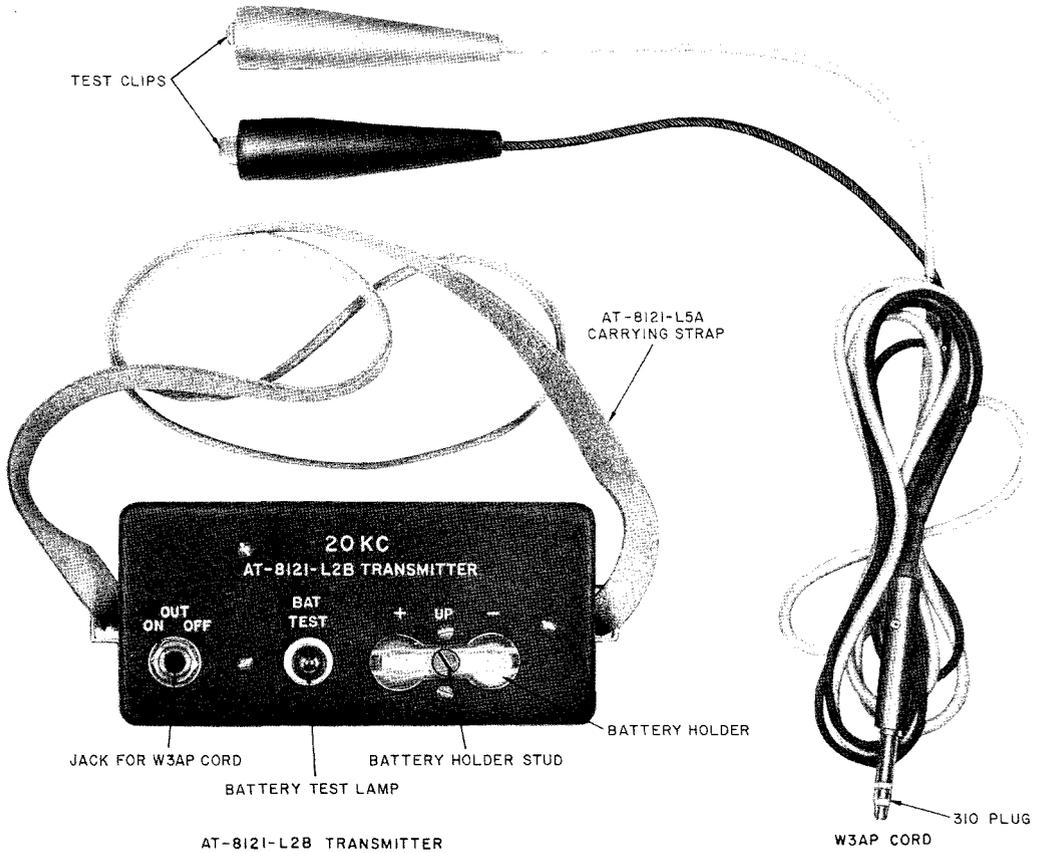

Fig. 1 — Transmitter and Cord
**2.01** The AT-8121-L1A (20 kc) Test Set consists of the components listed below, and illustrated in Fig. 1 and 2.
**3.02** Four 1.5-volt batteries (KS-14368) are required for operation of the test set, two in the transmitter, and two in the receiver. The batteries are mounted in the transmitter and receiver as shown in Fig. 1 and 2.